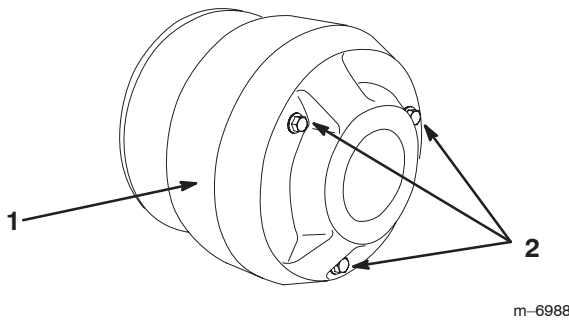

Figure 56
- 4. Remove the 3 bolts securing the cover to the clutch and remove the cover (Fig. 56).